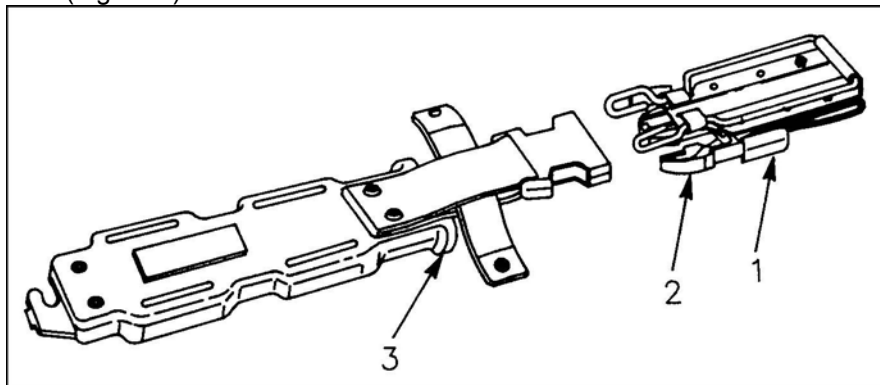

Figure 5. M9 scabbard reassembly (continued).
- b. Install attaching assembly load bearing end (1) with plastic portion (2) towards M9 scabbard (3) as shown (Figure 5).